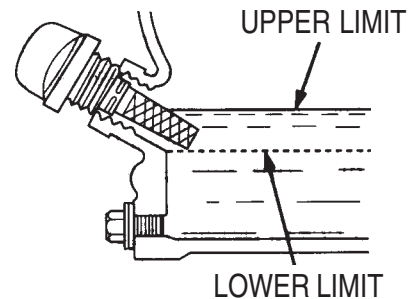

Figure 5. Engine Oil Dipstick (Oil Level)
4. If the oil level is low (Figure 5), fill to the edge of the oil filler hole with the recommended oil type (Table 3). Maximum oil capacity is 0.63 quarts (.60 liters).